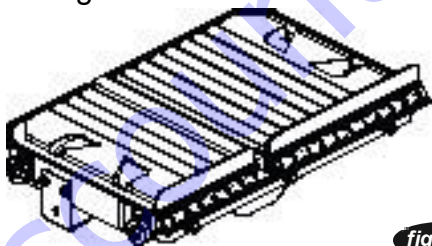

figure 7
- “ The ruler guide has inches marked along the top to allow convenient measurements and to promote precision cuts (figure 7).